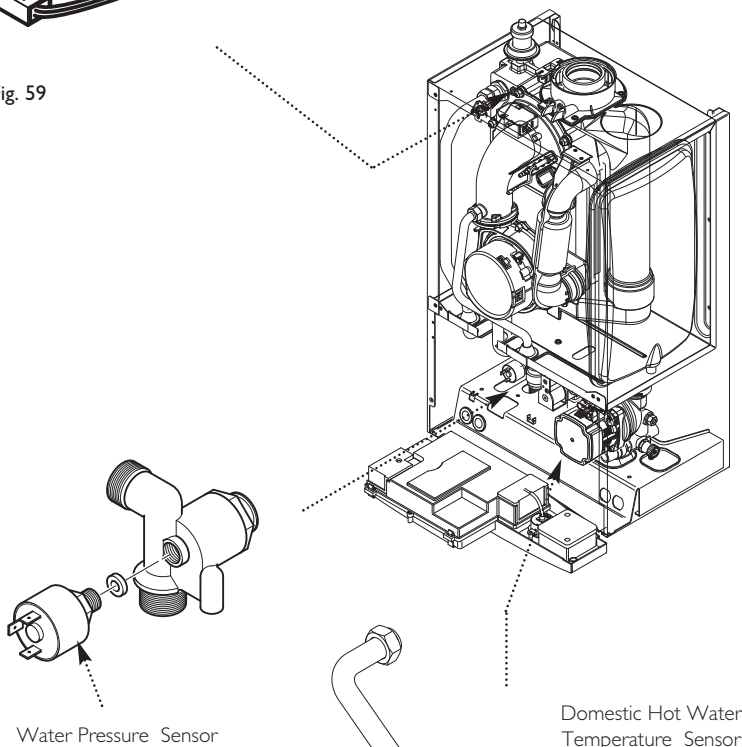

Fig. 60
13.9 Water Pressure Sensor (Fig. 60)
13.10 DHW Temperature Sensor (NTC) (Fig. 60)